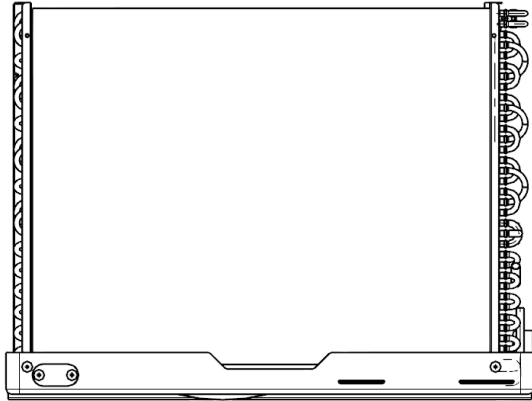

Figure 1
1. The air conditioner have the drainage gasket-Figure 1